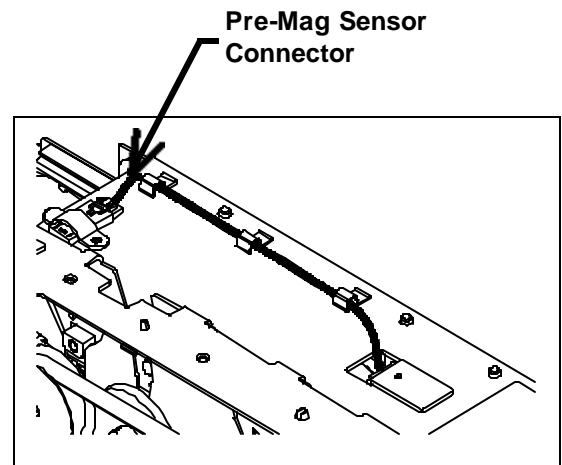

Figure 1
5. Unplug the Pre-Mag Sensor Connector from the extension cable (Figure 1).